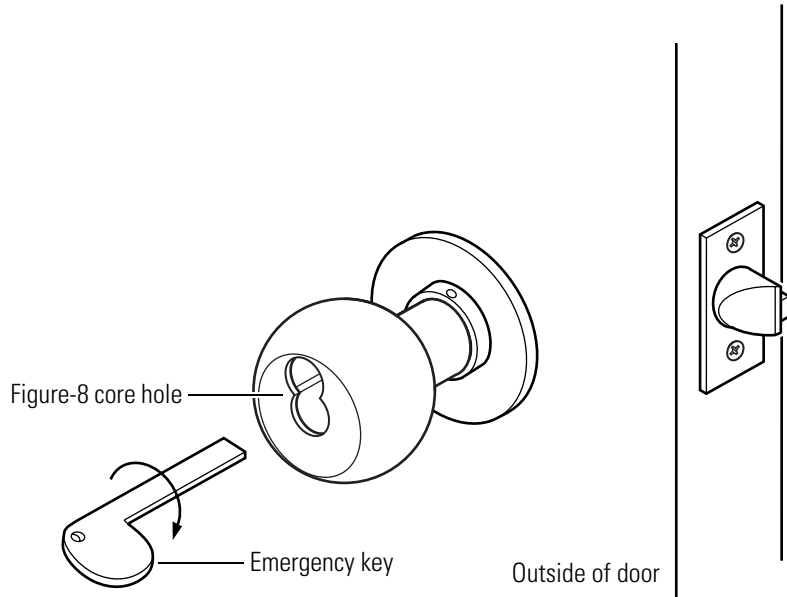

Figure 3.35 Inserting the emergency key
2. Insert the blade of the emergency key into the slot of the figure-8 core hole, as shown in Figure 3.35.